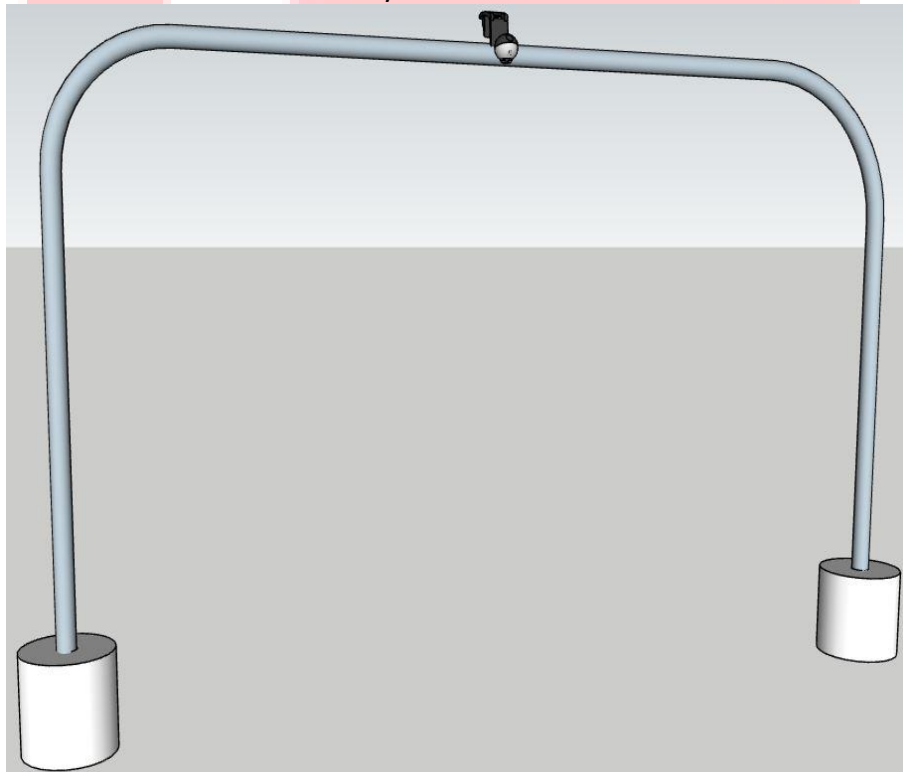

Figure 25: Satellite Mounting Example (Not to Scale)
- Teams can design any arrangement using their creativity to mount the camera, for example, hanging from ceiling, constructing a frame etc. An example setup is shown in Figure 25.